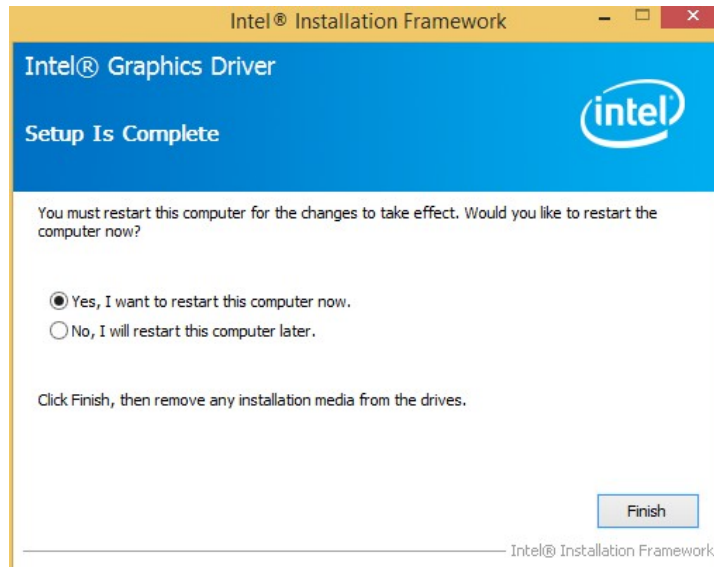

Figure 6-12: Graphics Driver Installation Finish Screen
Step 12: The **Finish** screen in Figure 6-12 appears.